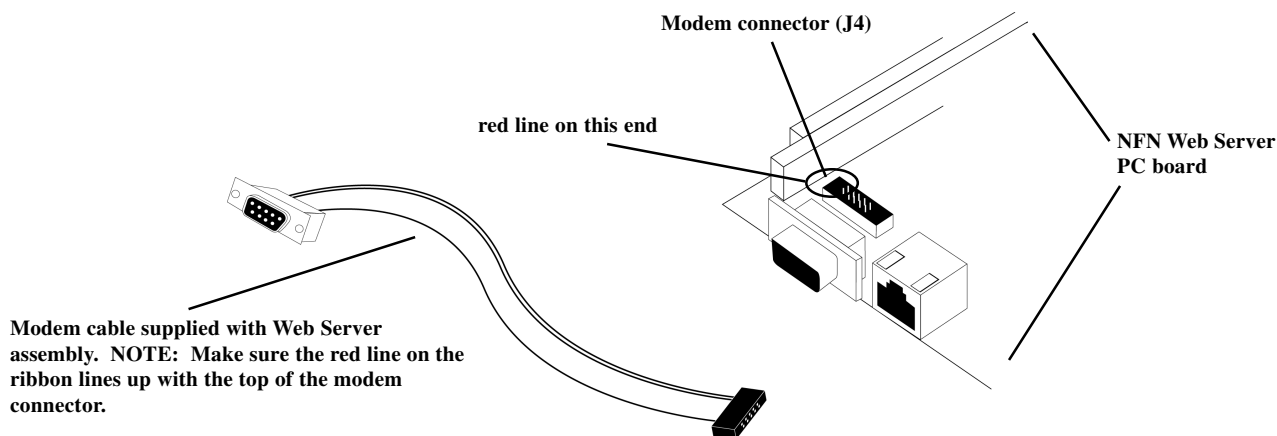

Figure 2.7-1: 10-Pin to DB-9 Connection (Modem Connection)
- Modem cable - connects the Web Server to a modem (see Figure 2.7-1)